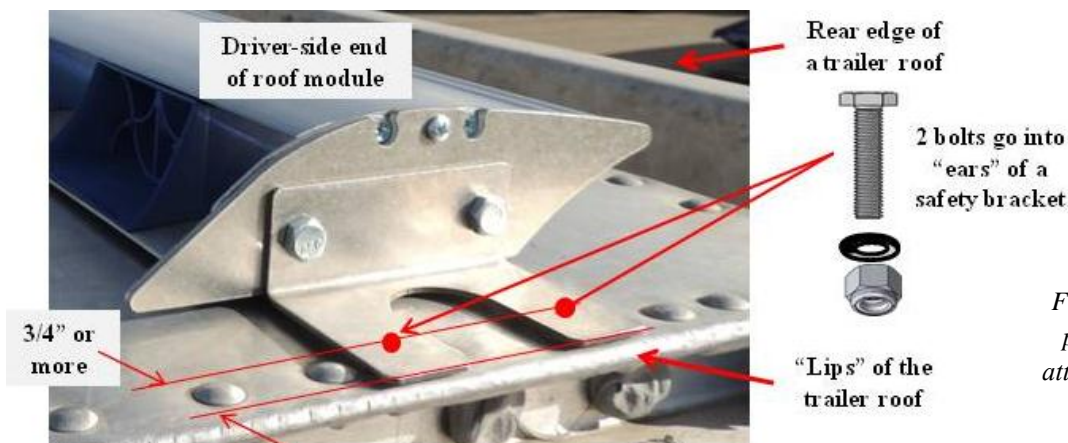

Figure 1.6: Adjusting module position on a trailer roof to attach safety brackets to "lips" of the trailer roof by bolts
1.2.4: Adjust the module position in such a way that allows securing safety brackets to the “lips” of a roof on the driver and passenger sides by two bolts on each side; Figure 1.6. Make sure the bolt centers are at least 3/4” away from the bracket edges. The safety brackets might slightly extend beyond the side edges of a roof for some trailers.
1.2.5: Adjust a height of the driver-side safety bracket in the module: keep the driver-side section on the roof surface and hand-press the bracket down to lay it on the roof “lip”; Figure 1.6. Tighten the lock nuts N in the driver-side connection to engage the locks M.